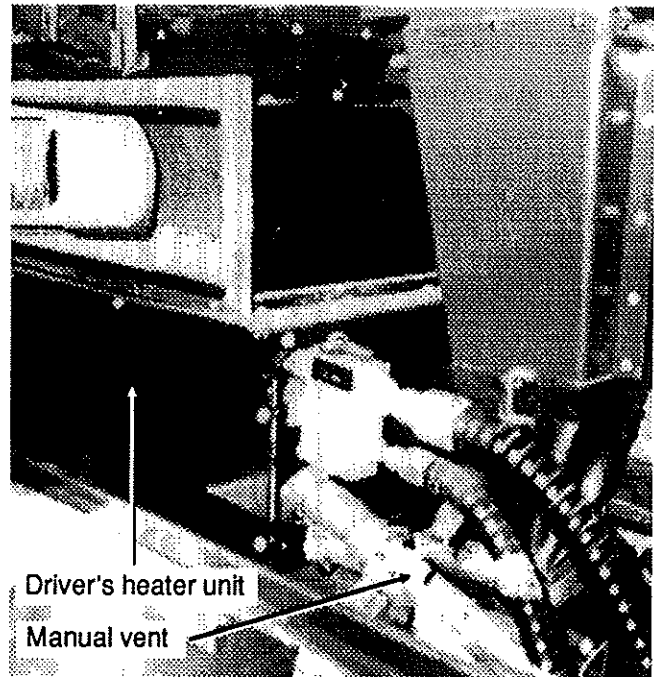

FIG. 22
4. From inside of vehicle, open the manual vent on the coolant inlet line near the driver's unit (see fig. 22) to ensure an efficient draining.
Whenever the heating system has been drained and refilled, or the system has run low of coolant and coolant has been added, it is necessary to bleed air from heating system. Locate the manual vents illustrated in figures 22 and 23, then open them momentarily until no air escapes from the lines.